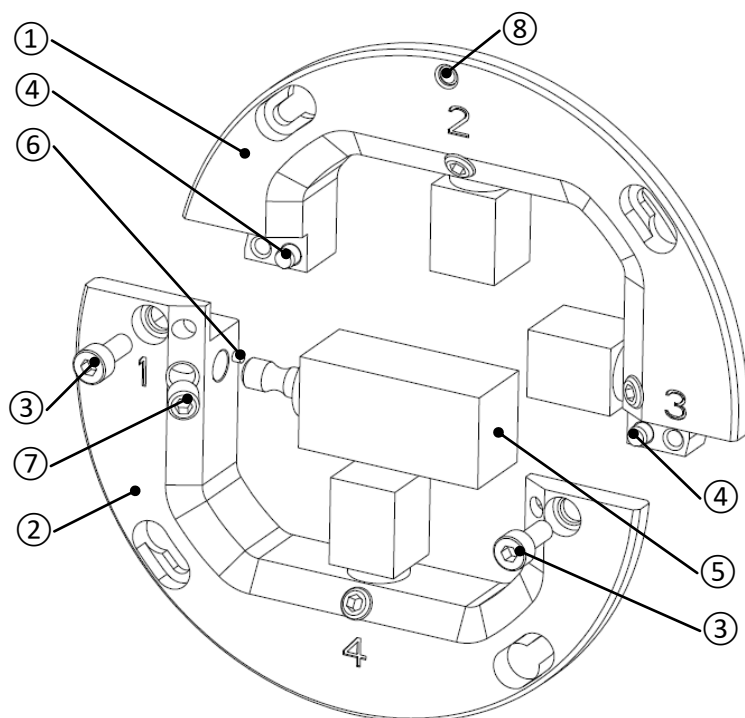

Figure 5 *Cuboid block's holder*
1. Insert the cuboid blocks [Figure 5 / 5] in places (i.e. holes) selected in CAM software. **Take care that the position grooves of blocks fit on position pins [Figure 5 / 6]!**
2. Fix the cuboid blocks with set screws [Figure 5 / 7].